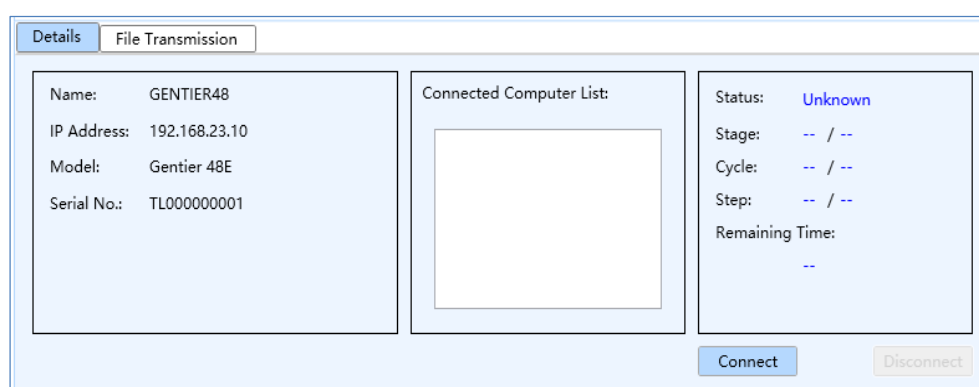

Figure D-3.2c Instrument Management interface - Details tab
► **Details** tab: includes three information areas and two function keys, as shown in figure D-3.2c.